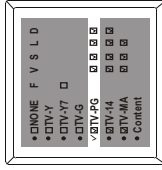

Fig.1
- When you select a rating to block, e.g. TV-PG, the higher rating (TV-14 and TV-MA) and their sub-ratings will be blocked automatically, while the lower rating (TV-Y, TV-Y7, TV-G) and their sub-ratings will be unblocked automatically shown as Fig.1.
- 1. In the menu shown as Fig.1, press the PROGRAM UP/DOWN button on the set or CH+▲/CH▼ on the remote control to select the item Content.